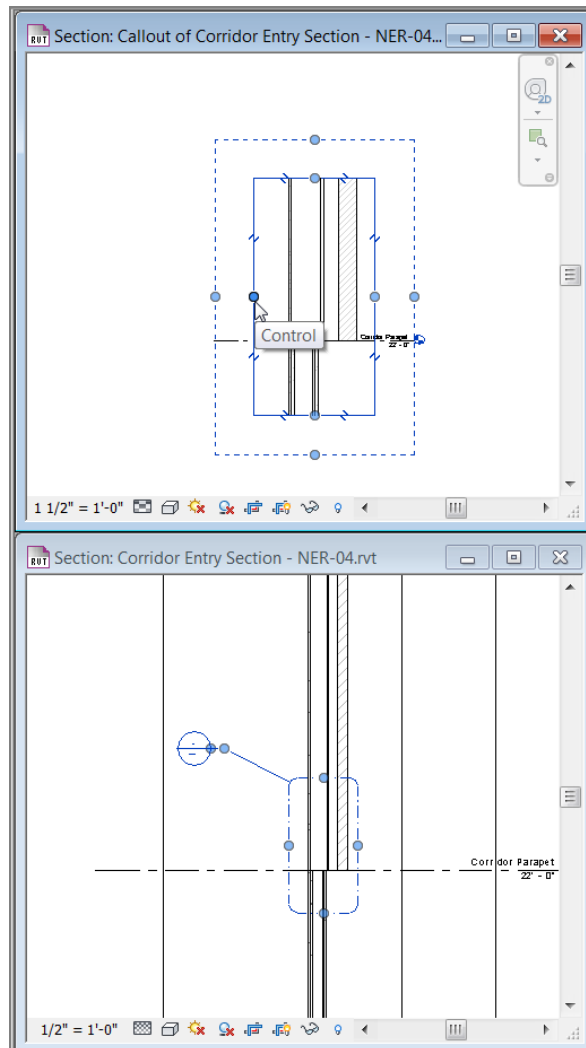

FIGURE 3.66: Modify the crop region by selecting it and stretching the grip.
The callout window is selected in the Corridor Entry Section along with the crop region in your callout. That's because the two objects are one and the same (see Figure 3.66).
- 14.** Stretch the crop region closer to the actual wall, as shown in Figure 3.66.